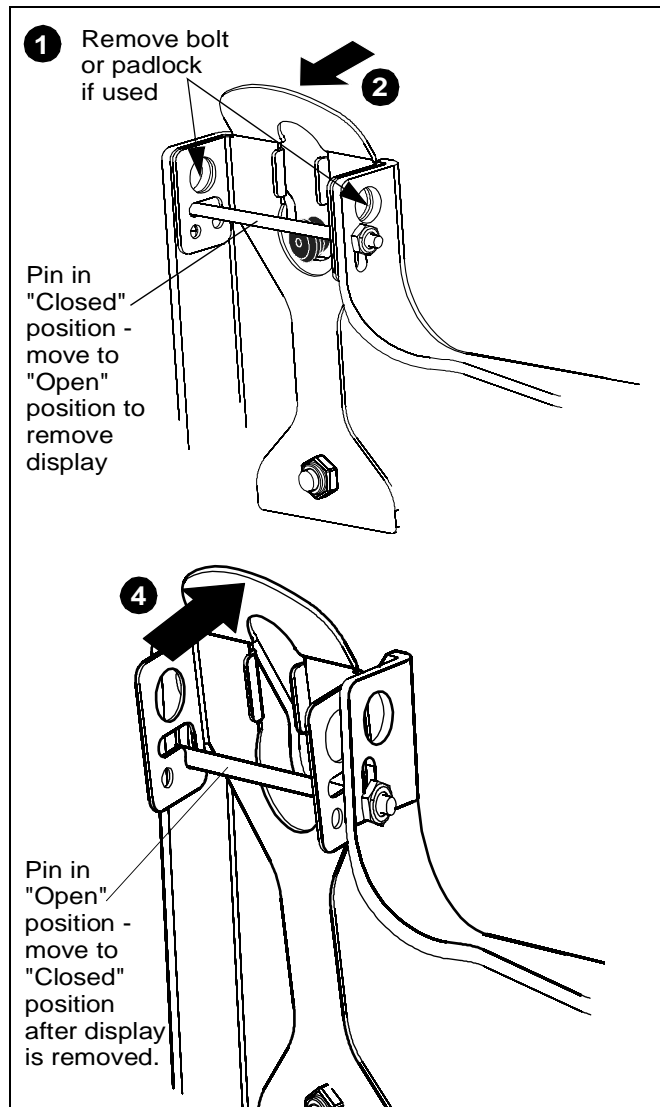

Figure 15
2. Pull back on flag on upper mounting hole and press pin down into "Open" position. (See Figure 15)